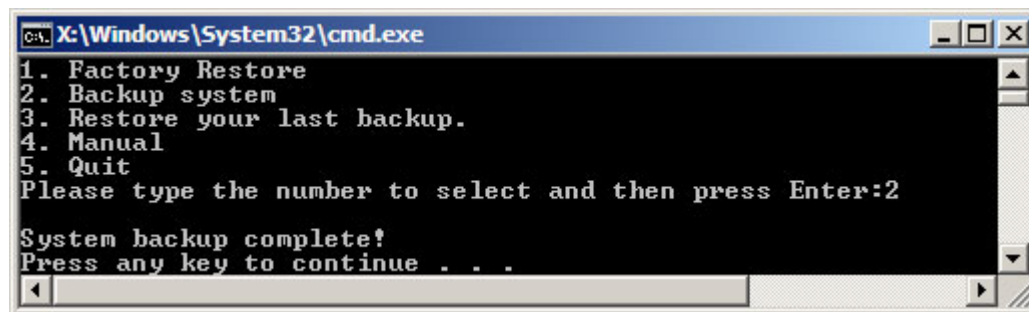

Figure B-39: System Backup Complete Window
Step 3: The screen is shown in **Figure B-39** appears when system backup is complete. Press any key to reboot the system.